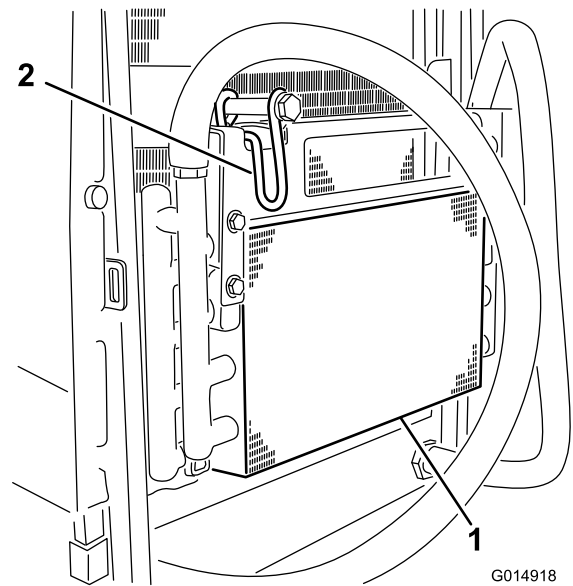

Figure 43
6. Pivot the latch inward to release the oil cooler (Figure 43).